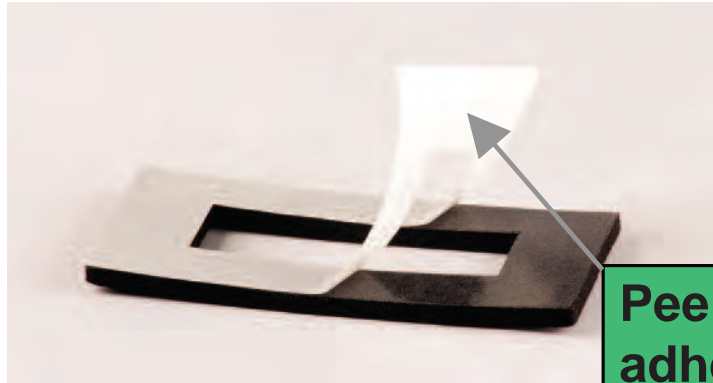
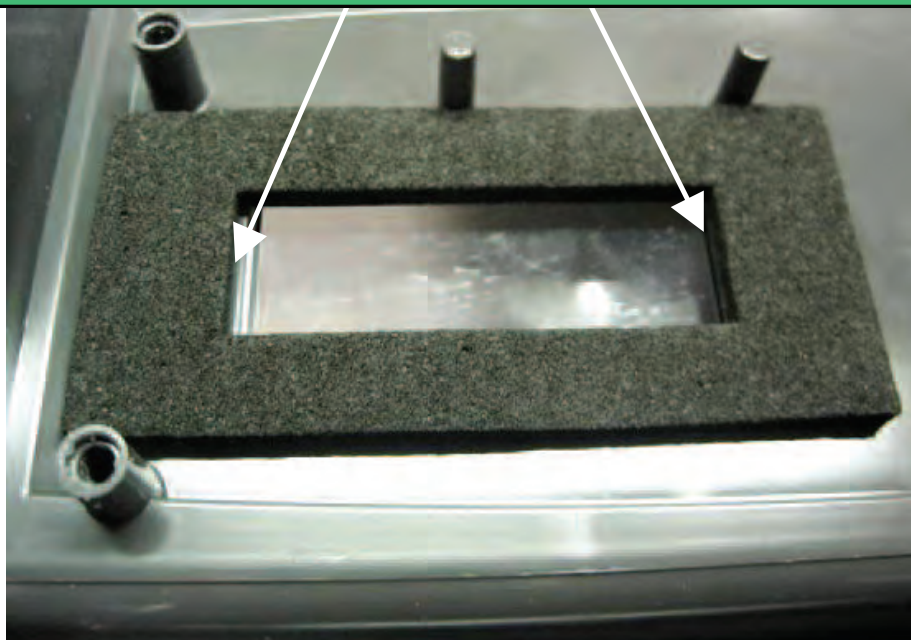

Fig. 18
Fig. 19
3. Remove the backing on the new gasket (**Fig. 18**) and install as per **Fig. 19**.